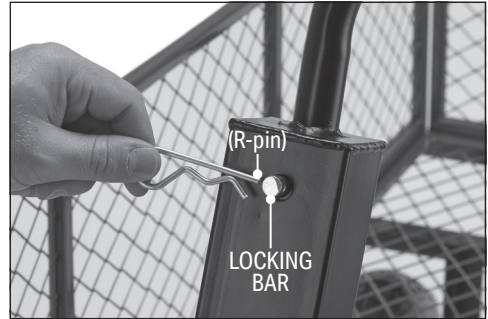

Fig. 23
- The handle can also be used as a towing attachment by removing the pre-fitted R-pin and locking bar from the handle assembly (Fig. 23).